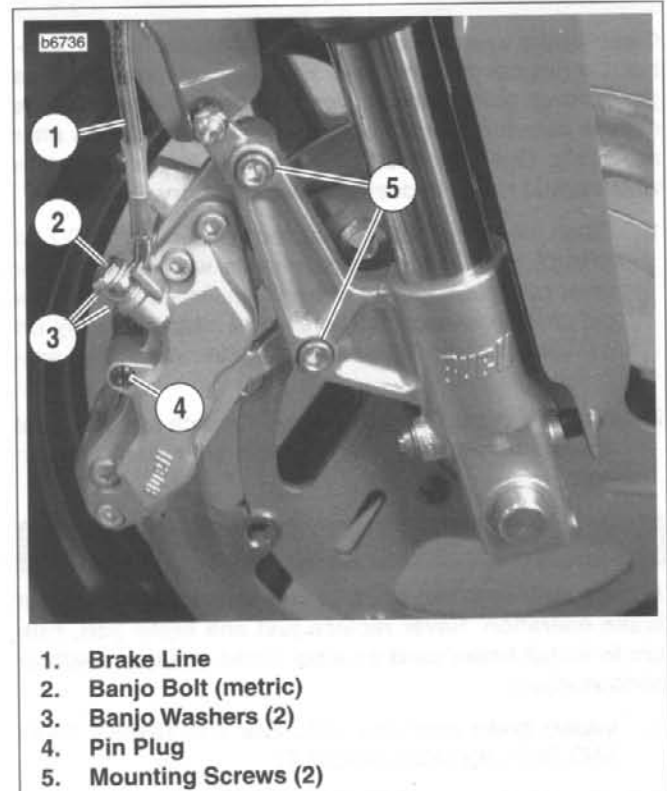
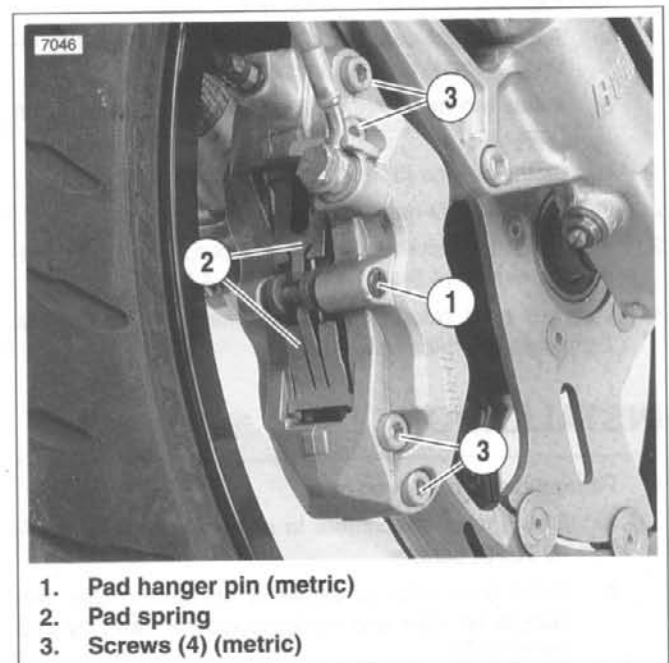

Figure 2-68. Front Brake Caliper Mounts
Figure 2-69. Pad Spring (Typical)
2. See Figure 2-68. Remove banjo bolt (2) (metric) and two banjo washers (3) to disconnect brake line (1) from caliper. Discard banjo washers.
- a. Remove pin plug (4).
- b. See Figure 2-69. Remove pad hanger pin (1) (metric).
- c. Remove pad spring (2).
4. See Figure 2-68. Detach caliper from mounts.
- a. Remove both mounting screws (5) while supporting caliper above brake rotor.
1. See Figure 2-69. Remove four screws (3) (metric) to separate caliper halves.
2. See Figure 2-68. Apply LOCTITE THREADLOCKER 272 (red) to both caliper mounting screws (5). Install and tighten to 22-25 ft-lbs (29.8-33.9 Nm).
- b. See Figure 2-69. Install pad spring (2) with opening at top as shown.
- c. Install pad hanger pin (1) (metric). Tighten to 11-14.5 ft-lbs (14.7-19.6 Nm).
- d. See Figure 2-68. Install pin plug (4). Tighten to 1.5-2.1 ft-lbs (2.0-2.9 Nm).